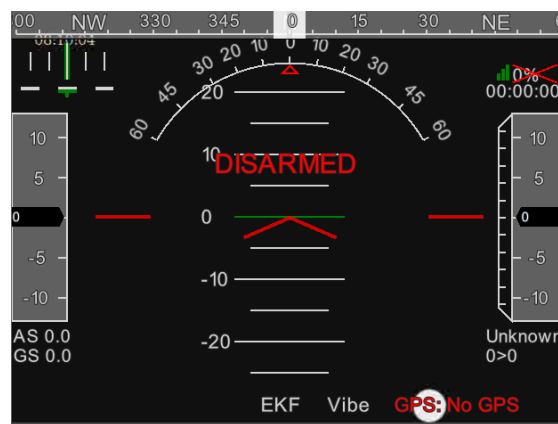

Figure 5: Mission Planner HUD
3. Once this pipeline is running, start Mission Planner and follow the steps outlined in Configuring Mission Planner Software. If everything is working the HUD should match Figure 5.